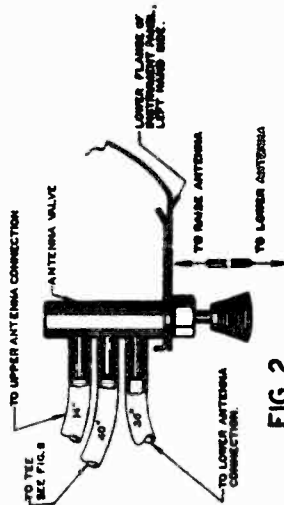

FIG. 2
- Assemble the hoses supplied with the antenna to the control valve as shown in Fig. 2 and install in the far left hole provided in the left end of the lower flange of the instrument panel.